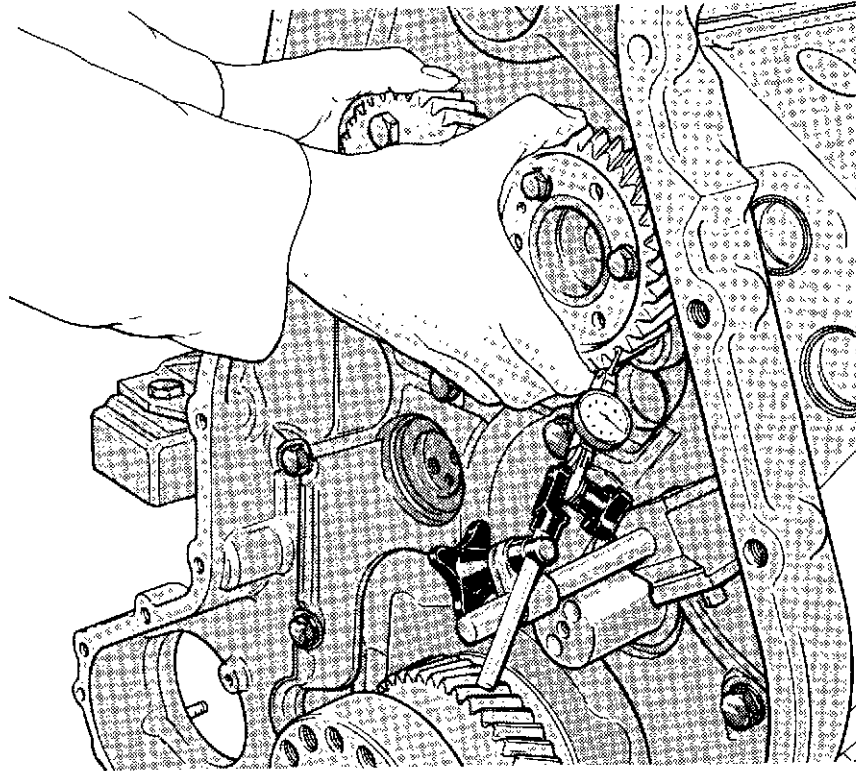

Fig. 19 Checking cam gear backlash
- 50 Mount a magnetic based D.T.I. in the wheelcase so that the button rests on the side of a tooth of the 'A' bank gear (fig. 19). Hold the 'B' bank gear stationary and rotate the 'A' bank gear to the limit of its travel in both directions. Check the reading on the gauge; permissible backlash for the camshaft gears is 0,100 to 0,250 mm (0.004 to 0.010 inch).